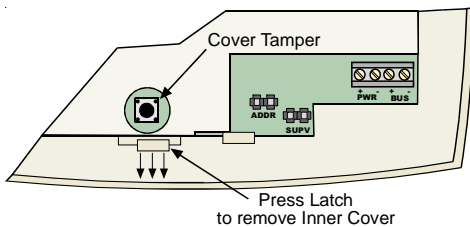

Figure 2- Removing the inner cover
- Remove the inner cover (see Figure 2) by pressing the latch.